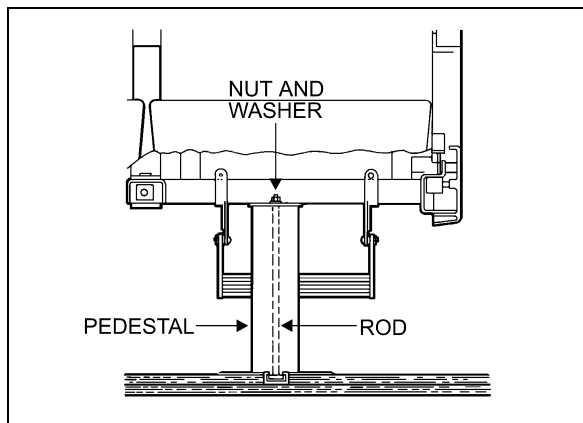

FIGURE 48: SEAT PEDESTAL ASSEMBLY
5. Remove 2 nuts and washers holding seat frame to pedestal rods. See figure 48.